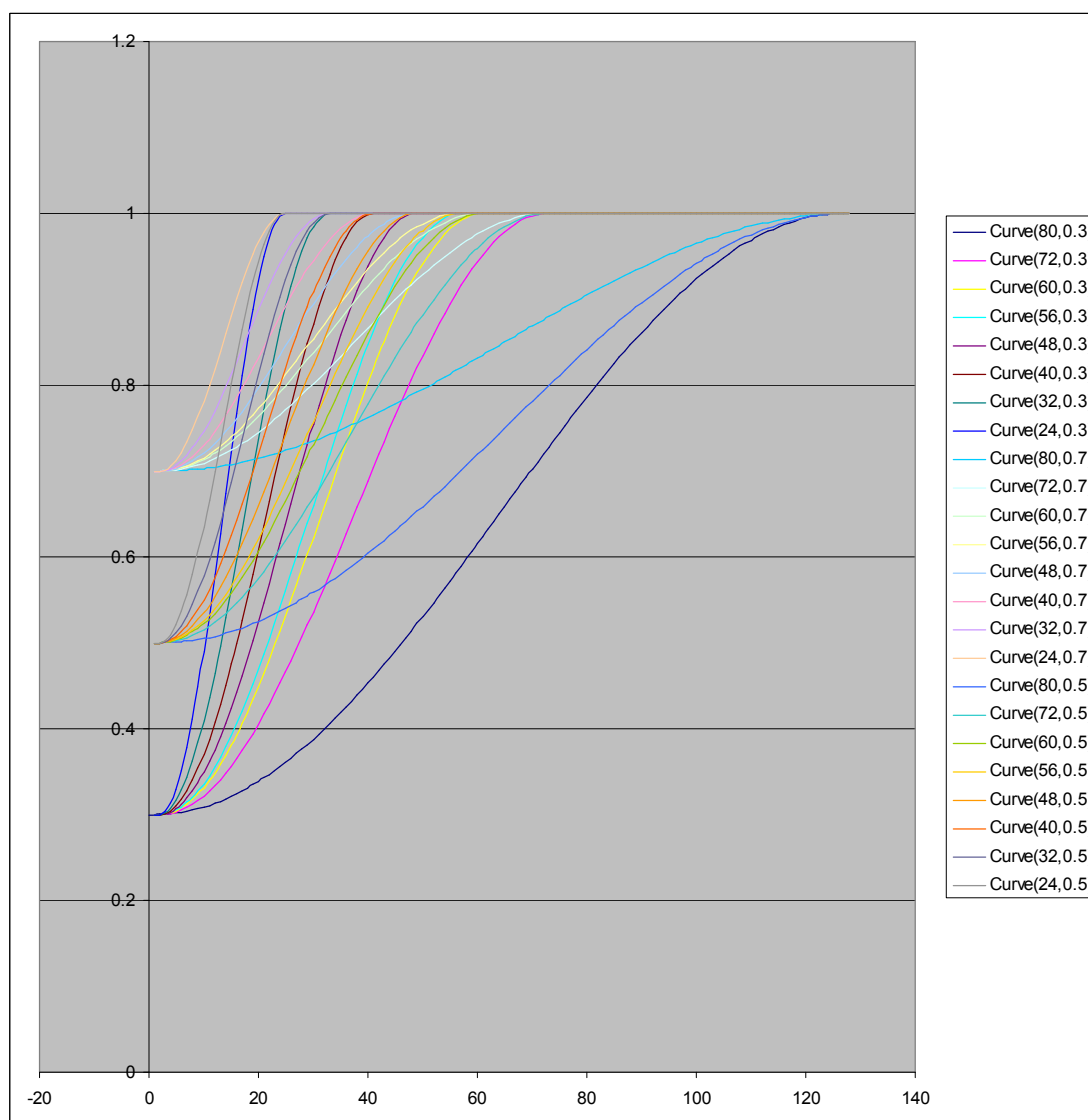

Figure 13 Y (Luma) channel noise reduction adaptation tables
| Figure 13 Y (Luma) channel noise reduction adaptation tables | 15 |
The LUT adaptation values are shown graphically in Figures 13 and 14. The degree of noise reduction is shown on the vertical axis (value 1 is no noise reduction) and the horizontal axis is the value of the luma difference. So, for example, with no motion (difference value = 0) the k value is set to 0.3, 0.5 or 0.7 depending on the depth control register setting. As the difference value increases then. Depending on the NR_speed setting (either value 24, 32, 40, 48, 56, 60, 72 or 80) the k value is then adjusted according to the curves shown in the diagram. An NR_speed setting of '111' (80) is the slowest to adapt to motion and the value '000' (24) is the fastest to adapt to motion.